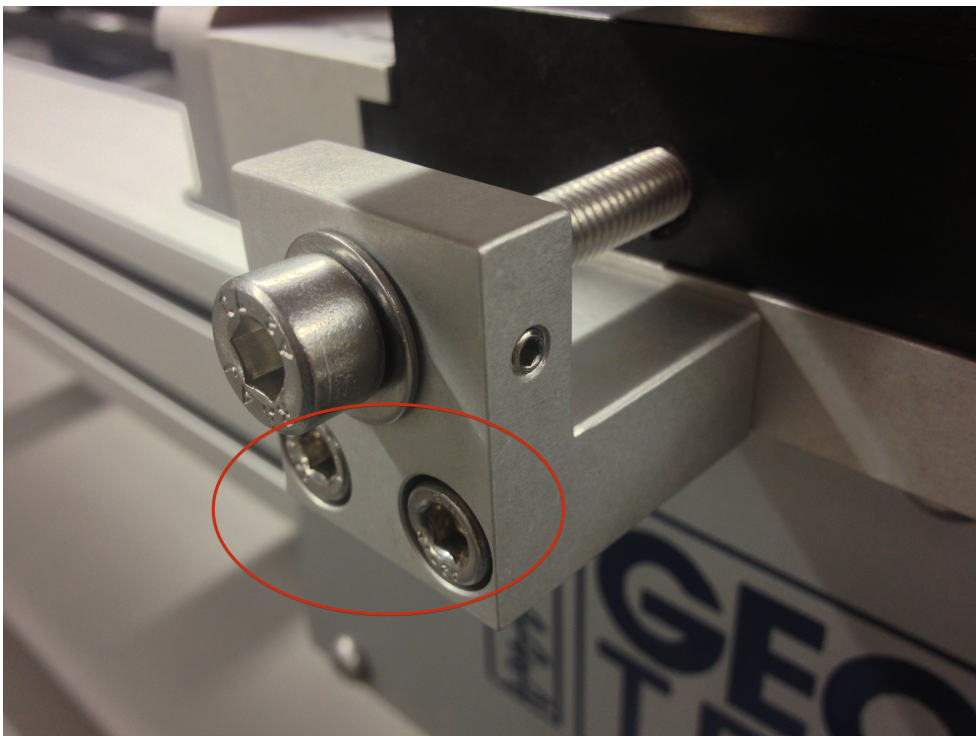

Figure 3. The fixing bolts for the sliding vibratory cutters.
The vibratory cutters are attached to a sliding plastic part that fit on either side of the bridge. These are fixed into place using the two M6 bolts shown in Figure 3. Ensure that the cables are routed away from areas where they can be trapped or cut. Ideally the cables should be fixed above the splitter to keep them clear of the mechanism.
1. To remove a vibratory cutter blade from the cutter, first remove the cutter and slide assembly by unscrewing the fixing bolts shown in Figure 3.